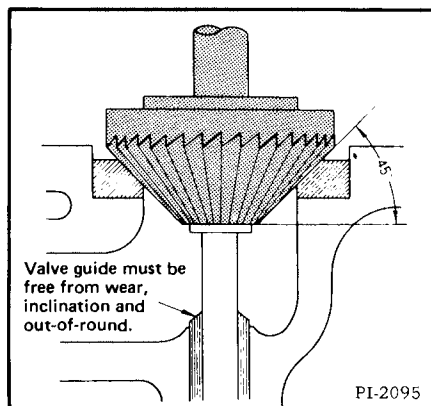

Fig. 8-21 Using Valve Seat Cutters
- (1) Check the valve seats for wrong contact or damage and correct or replace as necessary. Before correcting the valve seat, check the valve guide and install a new guide, when necessary.
- (2) Cut the valve seat using seat cutters of correct specification so that the contact width is correct (Fig. 8-21 & 8-22).